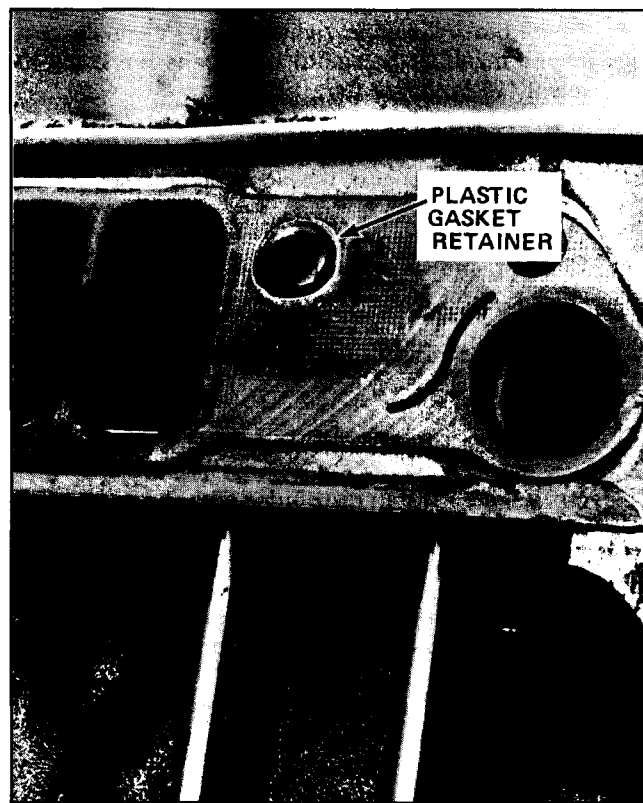

Fig. 6-100 Intake Manifold Gasket Retainers
1. On all but 307 engines, install new gaskets on cylinder heads, positioning them with plastic retainers (Fig. 6-100).
3. On 307 engine, install side gaskets on cylinder heads using sealing compound around water passages (Fig. 6-100).